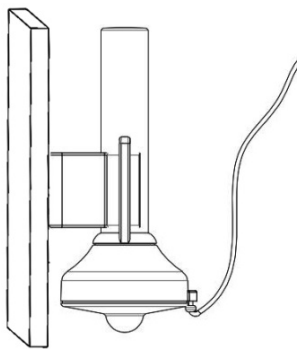

Figure 3-2
3.2.2 Fix the clip in a suitable position using screws, insert the light head to the clip and ensure the light is secure, then cover the two caps on the water sensors as Figure 3-2.